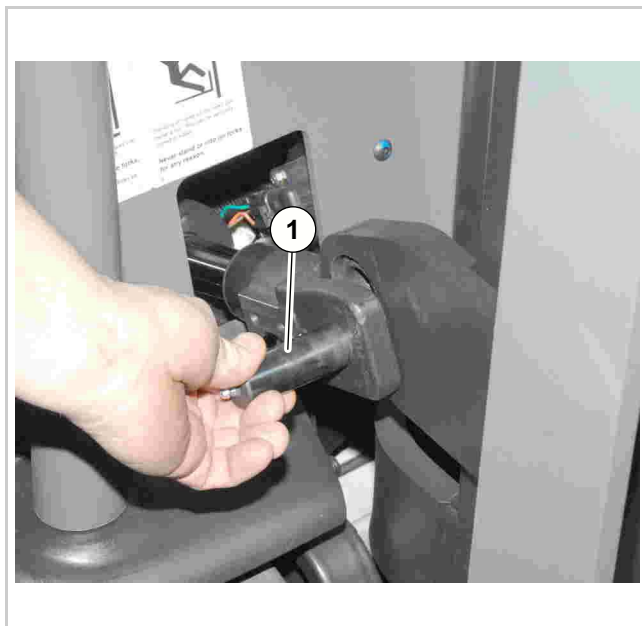

Fig. 13 (25417-01)
17. Remove both the tilt cylinder clevis pins from the mast. See Figure 13.